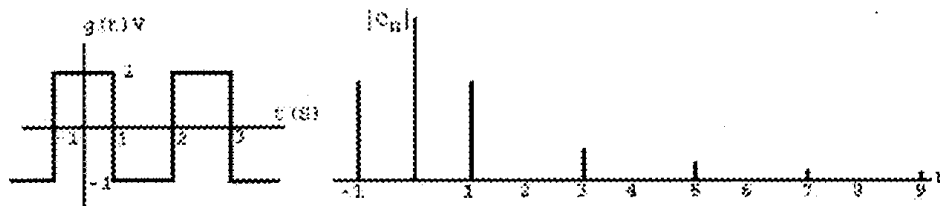

Fig.1: Square Wave and its Spectral Components
**Example:** The Fourier series expansion coefficients of the square wave shown in Fig. 1 are given by: